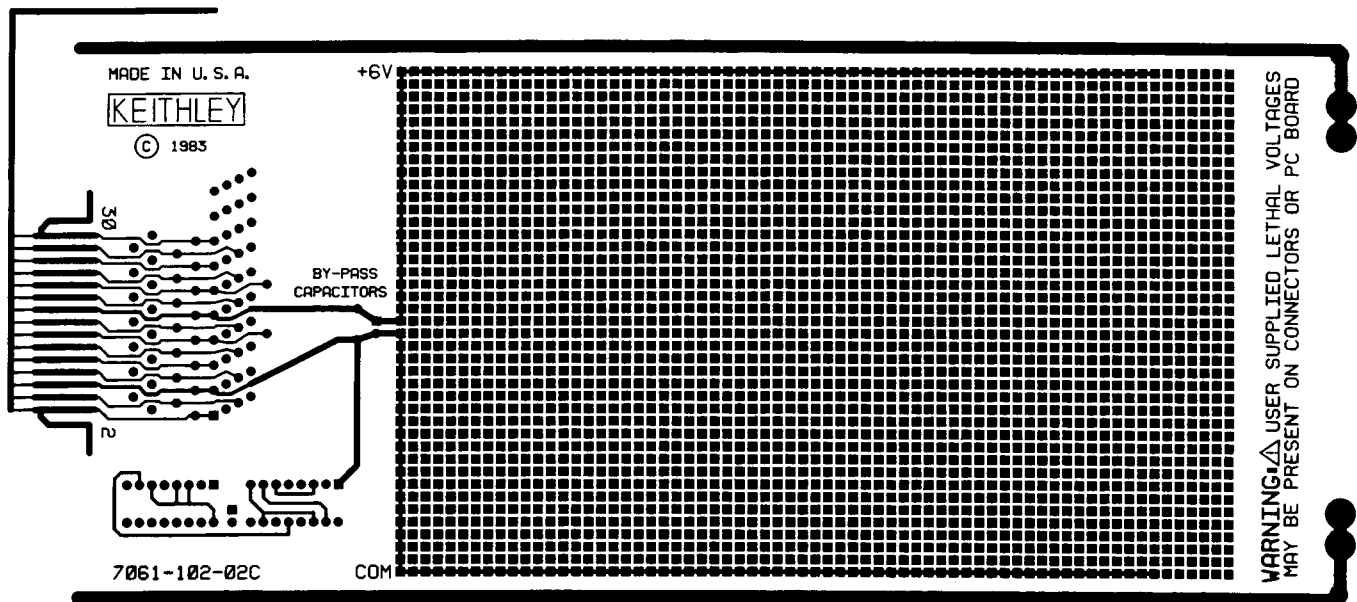
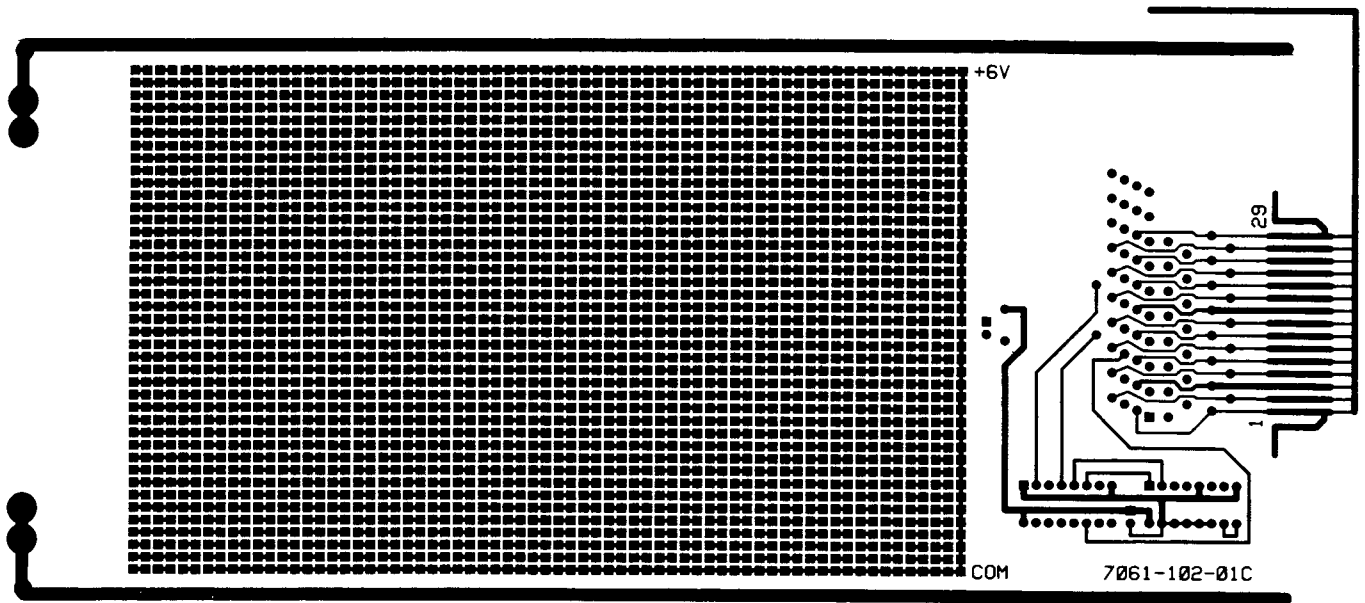

Figure 4-1. Model 7061 Layout Diagram, Component Side
Figure 4-2. Model 7061 Layout Diagram, Solder Side
1. The component side of the card (refer to Figure 4-1) has plated through holes that are on 100 mil centers and are 0.040 inches in diameter. These holes accept conventional integrated circuit packages as well as transistors, relays, resistors and other passive components.
2. The solder side of the card (refer to Figure 4-2) has plated through holes that are on 100 mil centers and, are also connected together in pairs. This is a convenient feature that allows the user to make a connection to a component without crowding multiple connections into a single hole. These connected holes can be easily cut with a sharp knife or razor blade if the need arises.
Figure 4-1 contains the component side of the Model 7061. Figure 4-2 contains a view of the solder side of the Model 7061.